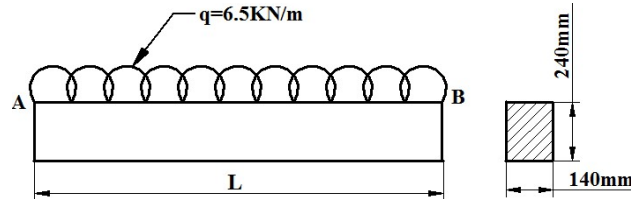

Figure 32
13. Determine the maximum allowable span length "L" for a simple beam as shown in **Figure 32**. The beam is of